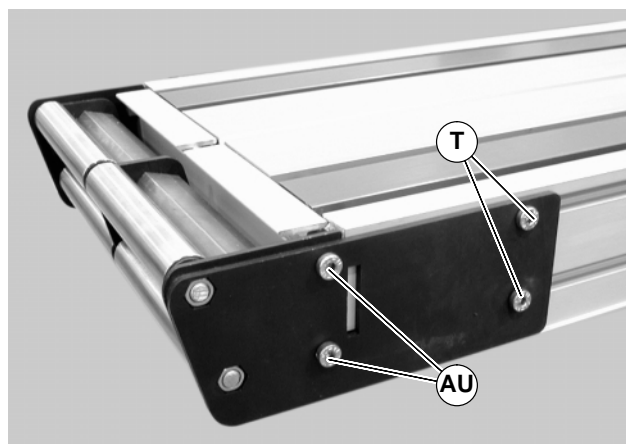

Figure 55
2. On one side of conveyor, remove the two (2) back fastening screws (T of Figure 55), and the two (2) front fastening screws (AU).